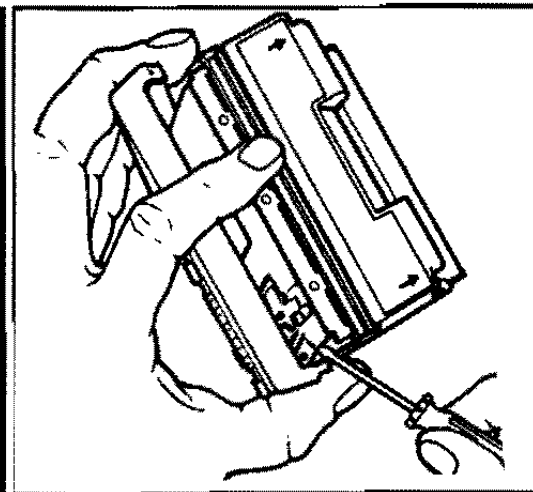

FIG. 4-9 RELEASING THE TIMER SWITCH
b. Grasp the rear door assembly as shown in figure 4-9, using your forefinger to push